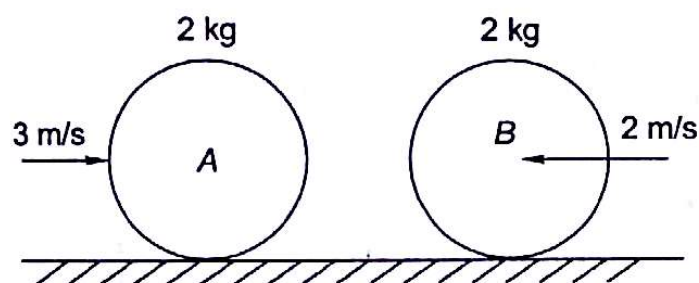

Fig. 21.16
- 21.2 Two steel balls of mass 2 kg each collide with each other with initial velocities of 3 m/s and -2 m/s as shown in Fig. 21.16. If coefficient of restitution is $e = 0.6$, what is the final velocity of ball B?